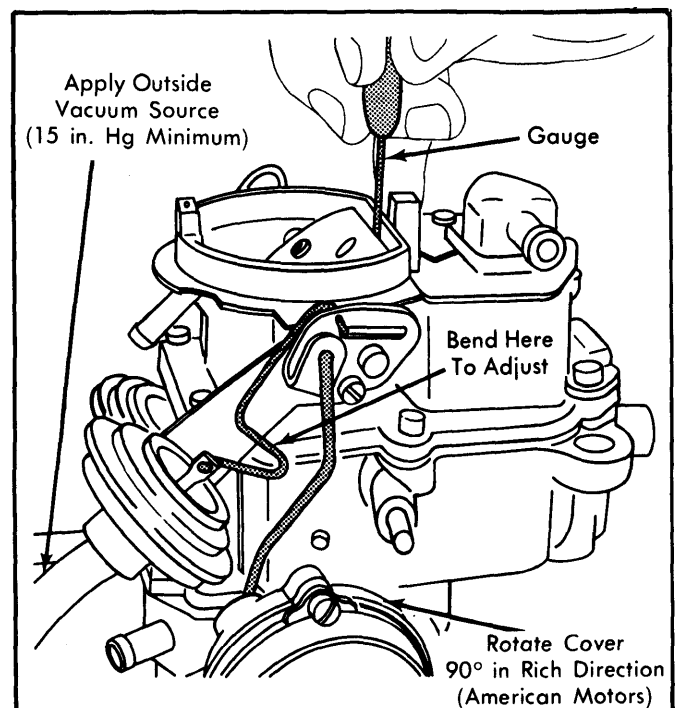

Fig. 7 Adjusting Choke Vacuum Break (Initial Choke Valve Clearance)
- 1) On American Motors models, loosen choke cover retaining screws and rotate cover 90° in the rich direction. On all models, place fast idle speed screw on high step of fast idle cam. See Fig. 7.